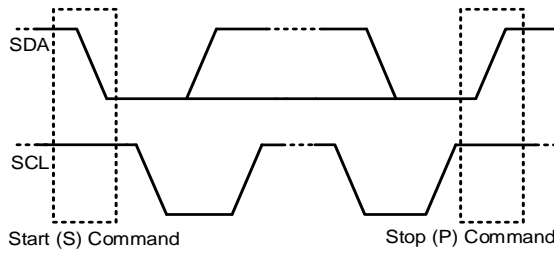

Figure 7: Start and Stop Commands
All transactions begin with a start (S) command and are terminated by a stop (P) command. Start and stop commands are always generated by the master. A start command is defined as a high-to-low transition on the SDA line while SCL is high. A stop command is defined as a low-to-high transition on the SDA line when the SCL is high (see Figure 7 on page 24).